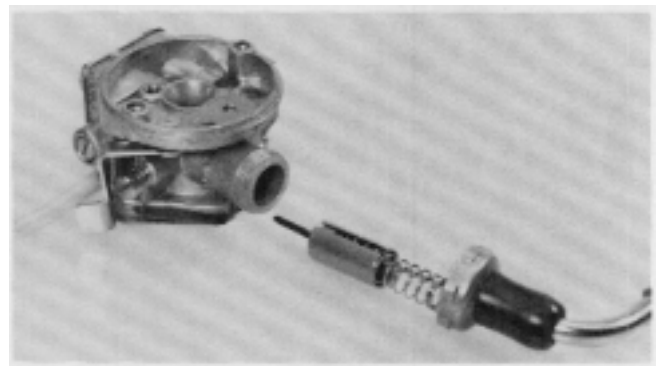

Figure 19
1. Separate the carburetor from the throttle by unscrewing the mixing chamber cap and removing the throttle cable and the attached throttle valve, needle jet, throttle spring and spring retainer. See Fig. 19.